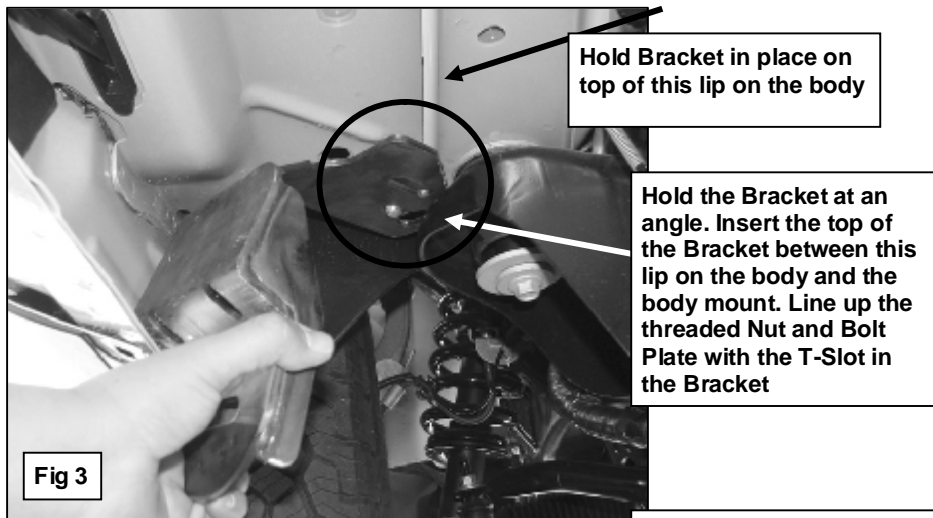

Fig 3
- Select the driver side front Mounting Bracket and hold it at a slight angle against the body. Move the top of the Bracket into position with the threaded end of the Nut and Bolt Plate lined up with the T-Slot in the Bracket. The top of the Bracket is designed to fit snug in position between the body mount and the lip on the body so it may take a couple of tries to get the Bracket into the correct position, **(Figure 3)**. Once the top of the Bracket is properly lined up in the T-Slot, rotate the bottom of the Bracket into position with the holes in the pinch weld. Secure the 12mm threaded end of the Nut and Bolt Plate with (1) 12mm Flat Washer, (1) 12mm Lock Washer and (1) 12mm Hex Nut. Rotate the Nut and Bolt Plate